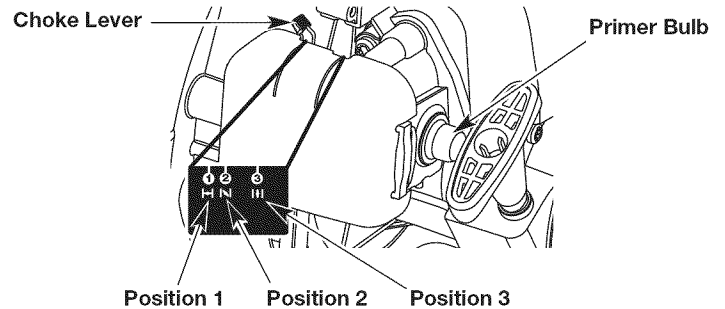

Fig. 8
3. Slowly press and release the primer bulb **10 times** (Fig. 8). If fuel cannot be seen in the primer bulb, press and release the primer bulb until fuel is visible.
4. Move the choke lever to **Position 1** (Fig. 8).
8. Move the choke lever to **Position 2** (Fig. 8).
11. Move the choke lever to **Position 3** (Fig. 8) and continue warming the engine for an additional 60 seconds. The unit may be used during this time.
IF... the engine hesitates, return the choke lever to **Position 2** (Fig. 8) and continue the warm-up.
9. Move the choke lever to **Position 2** (Fig. 8).
13. Move the choke lever to **Position 3** (Fig. 8) and continue warming the engine for an additional 60 seconds. The unit may be used during this time.